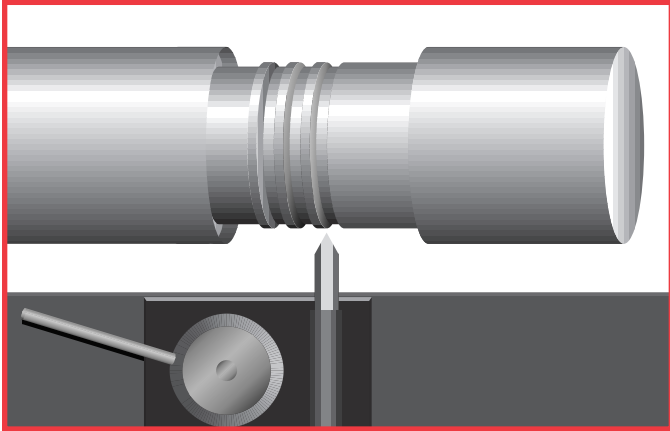

Figure 16. Roughen shaft for better adhesion.
2. **Finish undercutting** by machining a rough cut surface or gramophone pattern, the larger the shaft diameter, the deeper the threads. Degrease thoroughly. (See figure 16)